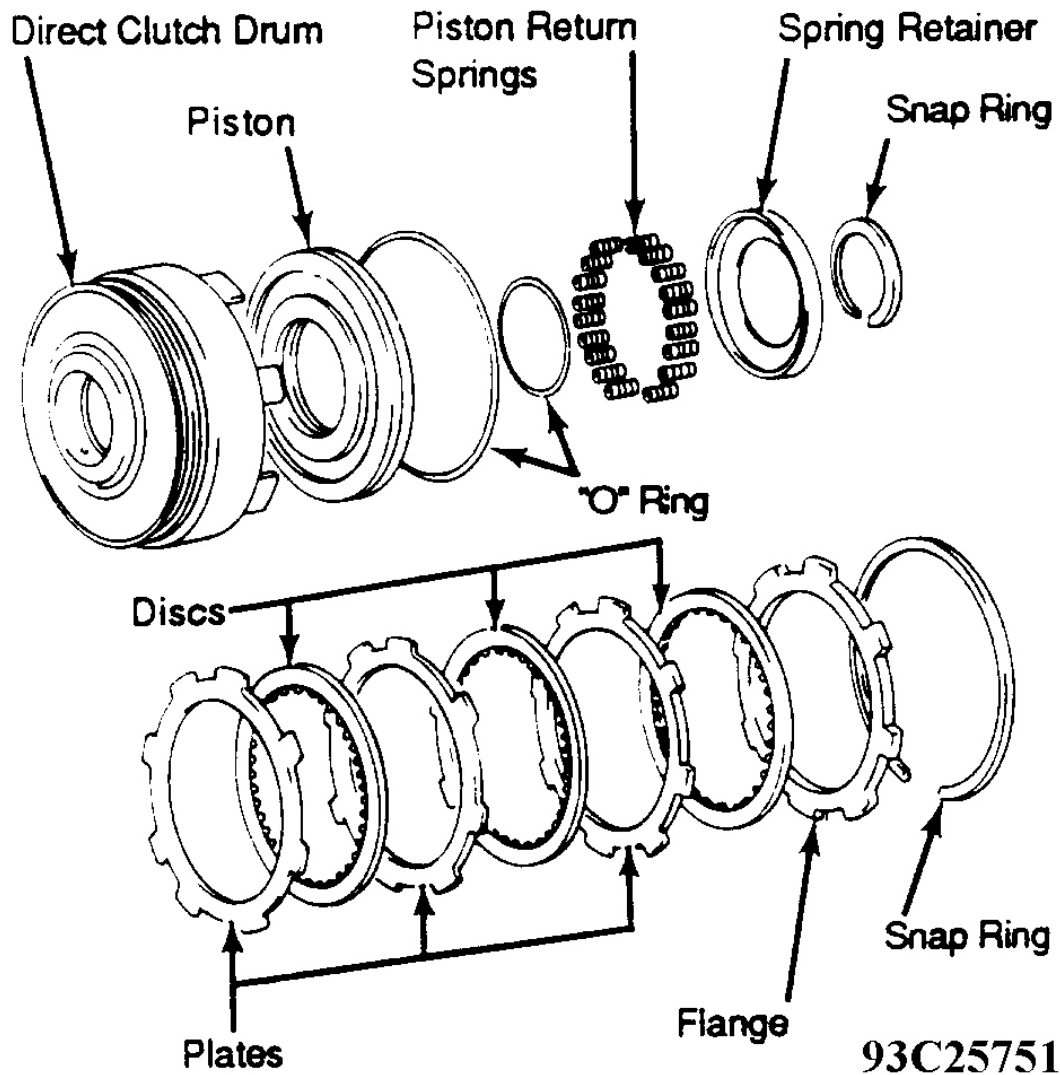

Fig. 20: Exploded View Of Direct Clutch
3. Remove spring retainer and 18 springs. Slide direct clutch on oil pump. Remove piston by applying low pressure compressed air. If piston does not completely come out, remove with needle-nose pliers. Remove direct clutch from oil pump. Remove "O" ring from clutch piston. See **Fig. 20**.